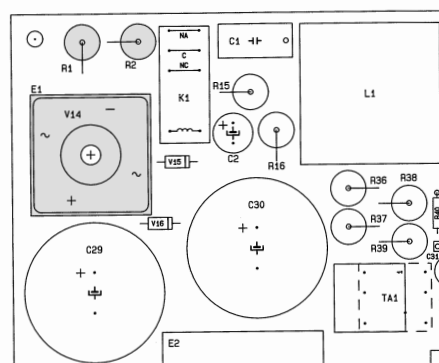

FIG. 3 REF. 1
1. Check for the presence of short circuits on the rectifier bridge and the correct value of the power resistance (fig. 3)